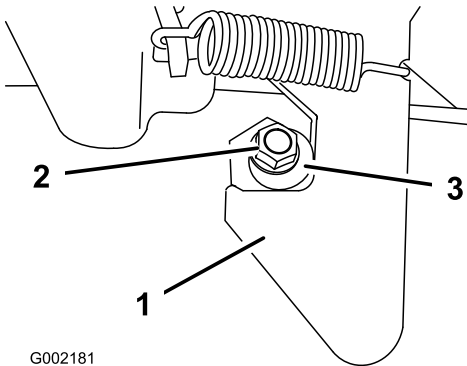

Figure 67
1. Loosen the locknut on the end of the latch post (Figure 67).
2. Rotate the latch post clockwise until it is snug against the hook portion of the latch (Figure 67).